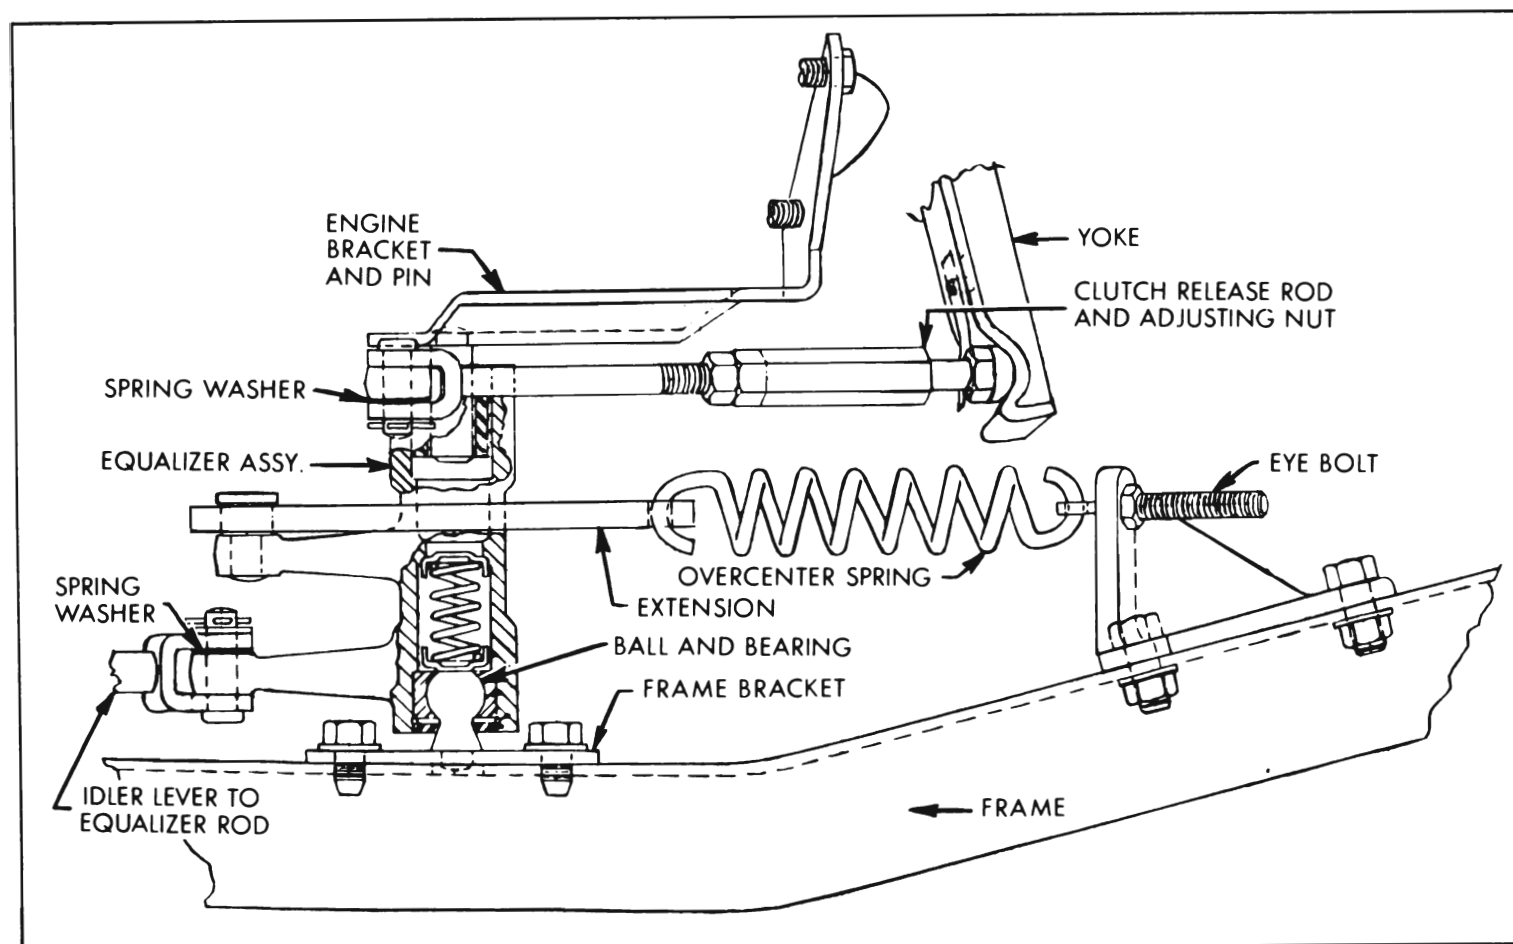

Figure 4-4—Clutch Release Equalizer
An adjustable pedal rod and clevis extends through the cowl to connect the pedal to an idler lever which pivots in a bracket bolted on the forward side of the cowl. An idler lever to equalizer rod extends downward to the clutch release equalizer. The equalizer pivots between the engine at one end and the frame at the other. The clutch release rod and adjusting nut extends from the equalizer to the clutch release yoke. See Figure 4-4.
passes over center and the over center spring helps depress the pedal. This results in a lower pedal pressure. See Figure 4-4.
5. Rotate pedal rod clevis as necessary for clevis pin to slip in freely with both clutch pedal and clevis pulled to the rear. See Figure 4-4.
It is very important to maintain pedal lash at all times. Insufficient pedal lash will cause the release bearing to ride against the release levers all of the time, resulting in abnormal wear of these parts. It may also cause clutch slippage and abnormal wear of the driven plate, flywheel, and pressure plate if pressure on the release levers is enough to prevent positive engagement of the clutch. See Figure 4-4.
1. Make certain that return spring pulls clutch pedal firmly against pedal bumper when pedal is released. If pedal does not contact bumper, check pedal and linkage for binding or lack of lubrication. Check condition of pedal return spring. Check condition of equalizer over center spring and make sure that spring eye bolt is fully tightened. See Figure 4-4.